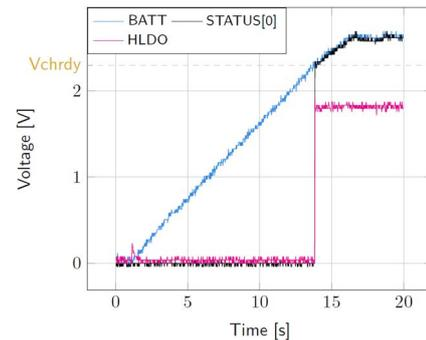

Figure 3: STATUS[0] and HVOUT evolution with BATT
- BATT: Voltage rises as the power provided by the source is transferred to the storage element (see Figure 3).
- HVOUT/LVOUT: Regulated when voltage on BATT first rises above  $V_{CHRDY}$  (see Figure 3).
- STATUS[0]: Asserted when the LDOs are ready to be enabled (refer to the AEM30940 datasheet “Normal Mode” section) (see Figure 3).